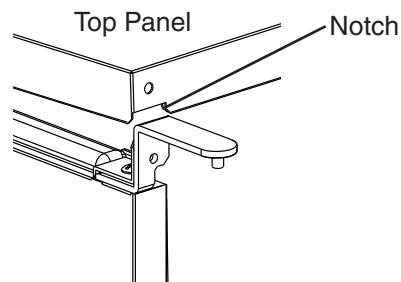

**Fig. 12**
- Remove hinge (A)-right and the bracket from the right side of the unit. Set aside hinge (A)-right; it is not needed. Remove the top brace from the left side. Fasten hinge (A)-left and the bracket to the left side and the top brace to the right side. See Fig. 12.
- Note: When on the proper side, the gasket notch for hinge (A) is to the inside.